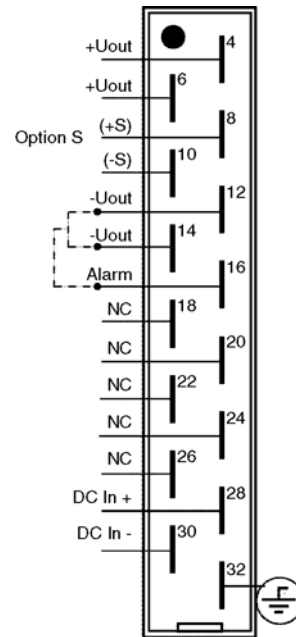

Figure 1 Pin-out DIN41612 H15 connector.
1. Check the pin-out, see figure 1. Be aware that if the sense option ”S” is provided the sense must be connected to the sensing point and cannot be left open.